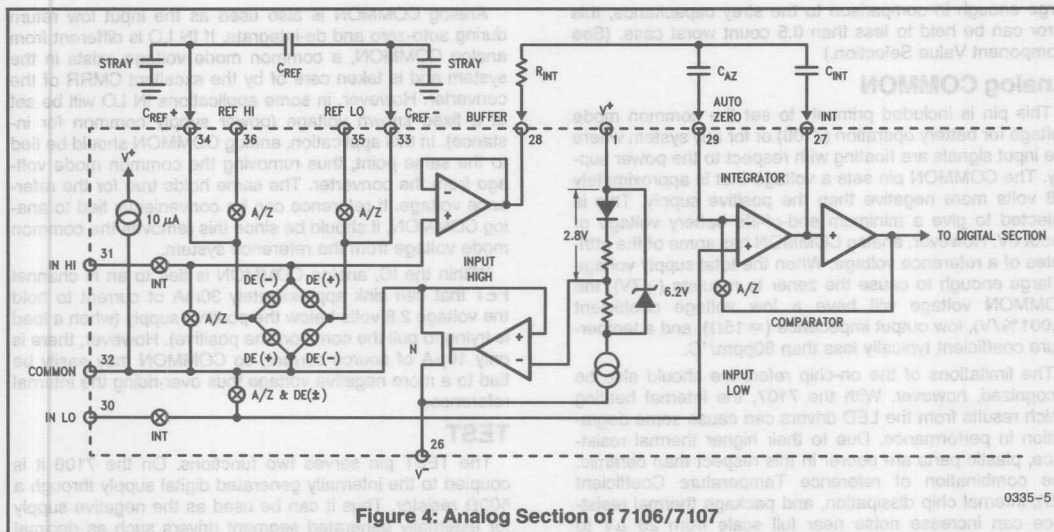

Figure 4: Analog Section of 7106/7107
Figure 4 shows the Analog Section for the ICL7106 and 7107. Each measurement cycle is divided into three phases. They are (1) auto-zero (A/Z), (2) signal integrate (INT) and (3) de-integrate (DE).